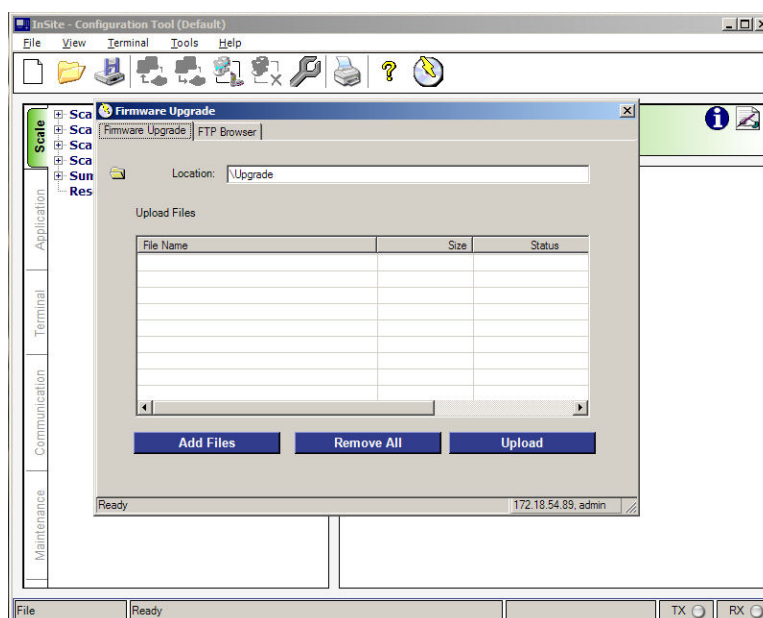

Figure 3-1: InSite Firmware Upgrade File Selection Screen
3. Access Tools | Flash Download, or click on the Flash Download icon . From the Firmware Upgrade window (Figure 3-1), select the files to copy to the IND780's Upgrade folder. Refer to the InSite documentation or help system for details on performing this step.